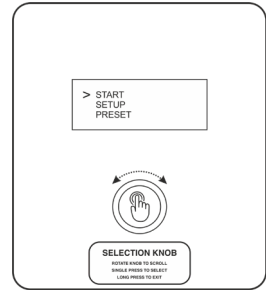

Fig. No. 19.1
1. MAIN MENU (Ref. Fig. No. 19.1)